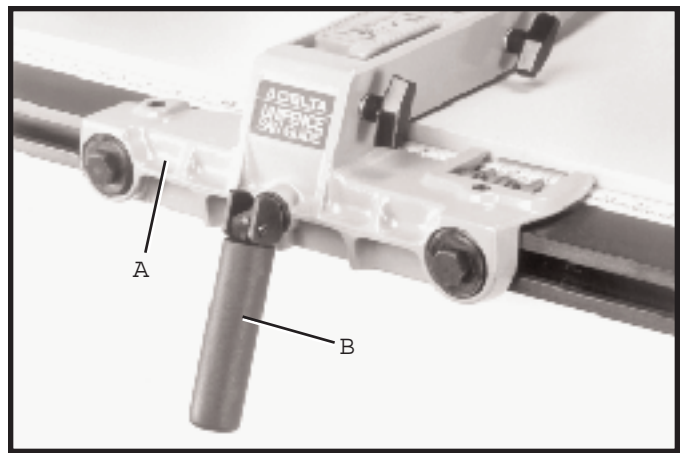

Fig. 46
4. Lock fence body (A) to the guide rail by pushing down on handle (B) as shown in Fig. 46.